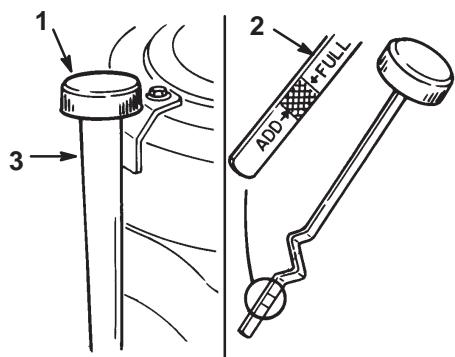

Figure 26
2. Clean around the oil dipstick (Fig. 26) so dirt cannot fall into the filler hole and damage the engine.
3. Unscrew the oil dipstick and wipe the metal end clean (Fig. 26).
4. Slide the oil dipstick fully into the filler tube, do not thread onto tube (Fig. 26). Pull the dipstick out and look at the metal end. If oil level is low, slowly pour only enough oil into the filler tube to raise the level to the full mark.
5. Slowly pour approximately 80% of the specified oil on page 25, into the filler tube (Fig. 26). Now check the oil level; refer to Checking Oil Level, page 25. Slowly add additional oil to bring to full mark on dipstick.